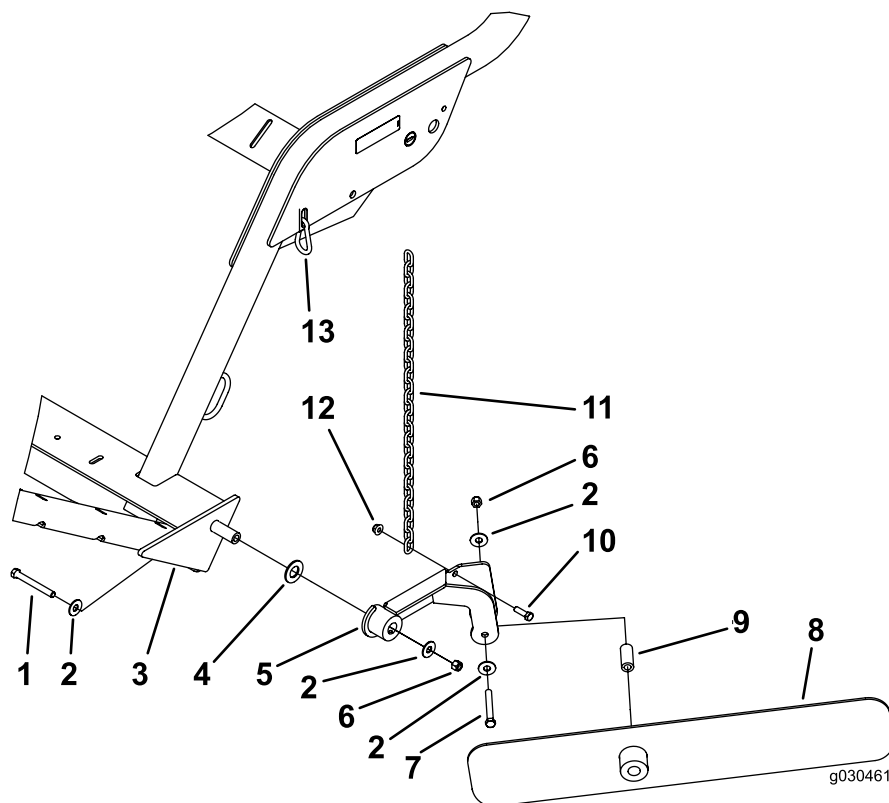

Figure 16
Note: Position components as shown in Figure 16.
2. Secure the windrow blade to the mounting assembly with a bolt (7/16 x 3-1/4 inches), 2 flat washers, a spacer, and a locknut (7/16 inch). Assemble the components as shown in Figure 16.
- Secure the chain to the blade mounting assembly with a bolt (3/8 x 1-1/4 inches) and a flange nut (3/8 inch) (Figure 16).
- Secure the other end of the chain to the slot in the frame with the snap link (Figure 16).